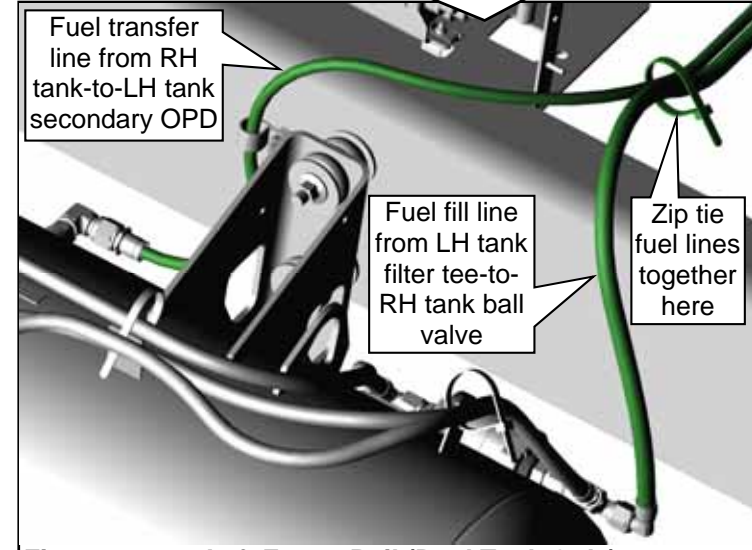

Figure 32.9 — Left Frame Rail (Dual Tank Only)
8. **Dual Tank Only:** Zip tie the two fuel lines together where they join just above the left frame rail. **Figure 32.9.**